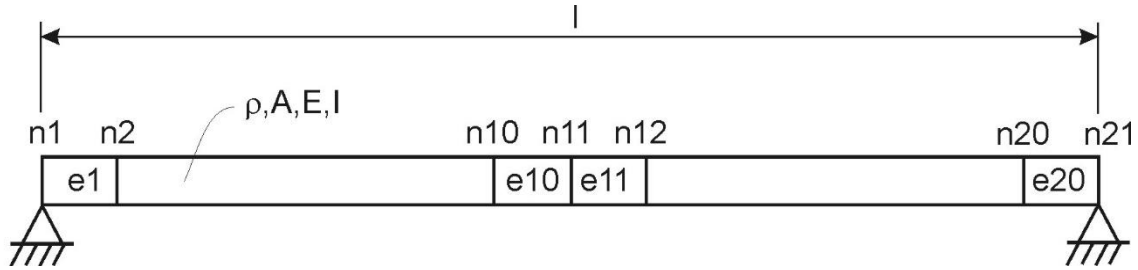
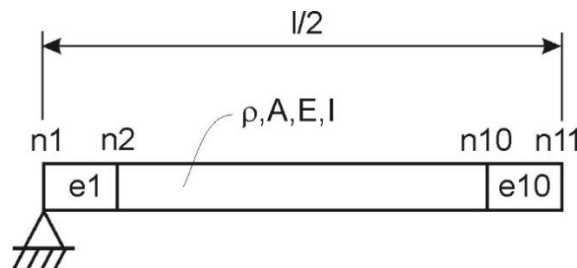

Figure 3.1 Pinned-pinned beam system
Figure 3.2 Component 1 (pinned-free)
Consider the pinned-pinned beam shown in Figure 3.1. Only the transversal vibrations of the beam are considered, so axial and torsional vibrations are ignored. The beam is slender. So, when we study transversal vibrations, it suffices to consider pure bending of the beam (shear is neglected). This means that the beam may be modelled using Euler theory (see Appendix B for element matrices).
1. Determine analytically the exact solutions of the six lowest eigenfrequencies (in Hz) and corresponding eigenmodes of the pinned-pinned beam system in Figure 3.1. These analytical exact solutions can be found in Appendix A.
2. Determine the six lowest eigenfrequencies (in Hz) of the pinned-pinned beam system in Figure 3.1 using a Finite Element approach. Use 20 Euler beam elements of equal size to model the system.
The system of Figure 3.1 now is split in two components (also called substructures) of equal size. Component 1 is shown in Figure 3.2.